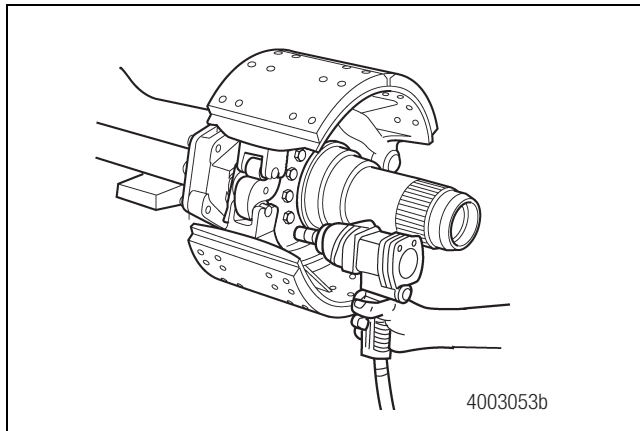

Figure 3.10
12. Use a socket and wrench to remove the brake spider/spindle-to-housing bolts. Figure 3.10.